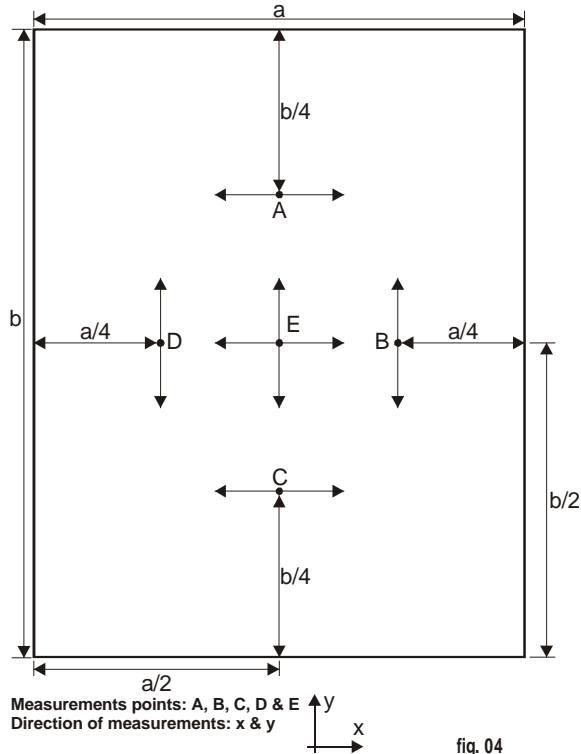

fig. 04
6. In order to properly evaluate soil resistivity, measurements must cover the whole area to be occupied and influenced by the future grounding system. For an area of up to 10,000 m2, it is recommended resistance measurements to be performed in at least five points, arranged as shown in figure 04. Two sets of measurements should be needed for the central point (each set of measurements with its corresponding spaces between rods of 1, 2, 4, 8 and 16 m).
Larger areas can be divided in areas of 10,000 m2 each, and measurements in 5 points can be carried out as shown in figure 04. Besides, in the case of different forms, there will always be the possibility of limiting a rectangle and proceed as in the previous case.